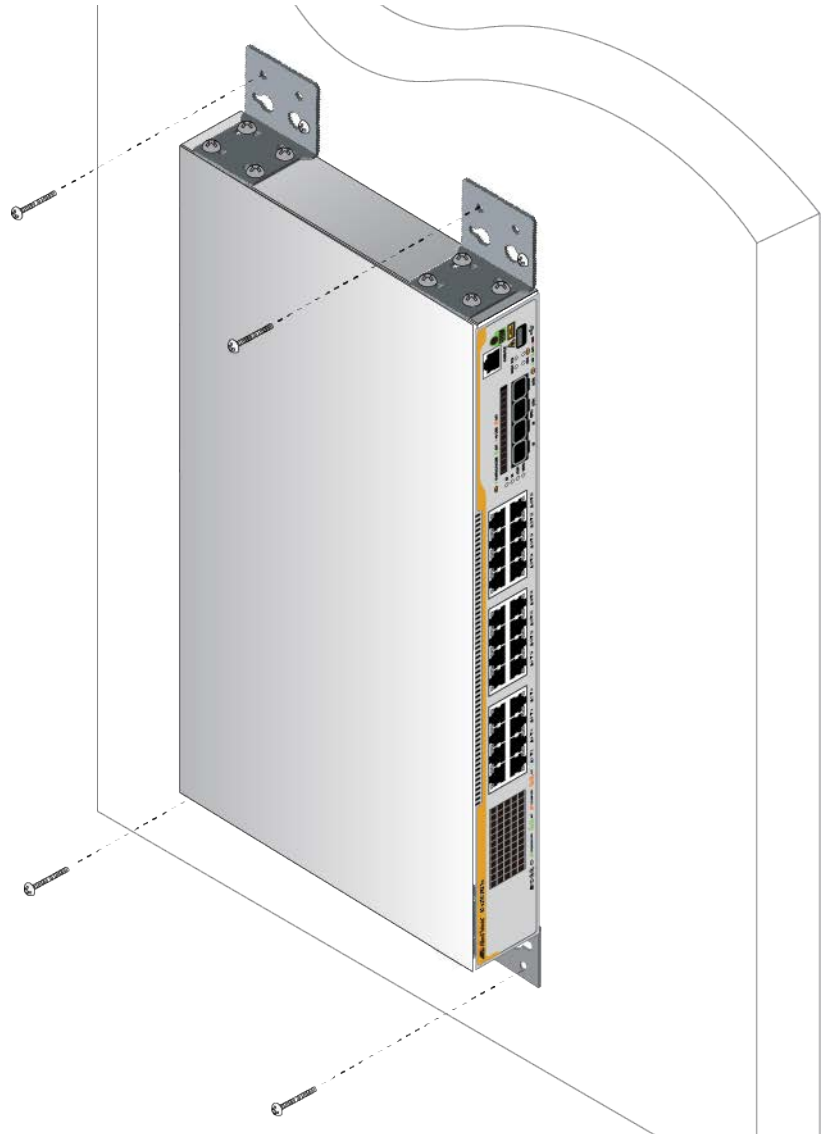

Figure 34. Screwing the Rest of the Screws
11. Install the other four screws to the rest of the pre-drilled holes. See Figure 34 on page 67.
8. Have two people hold the switch back to the wall location, tighten the screws to secure the switch to the wall. See Figure 34.